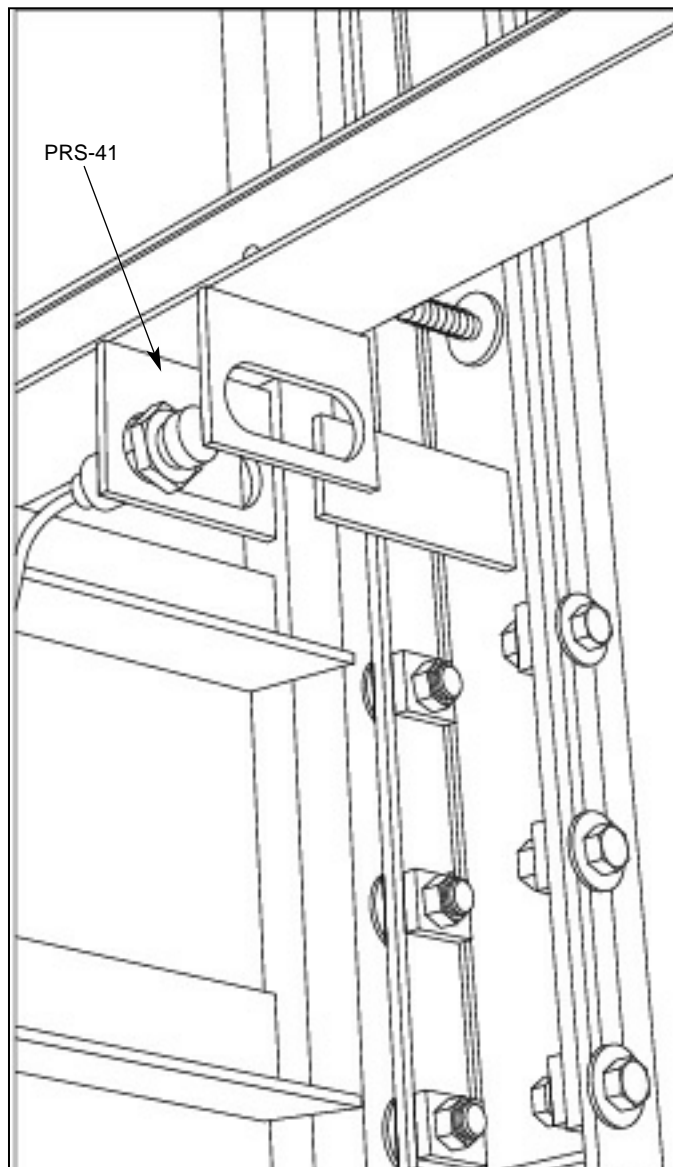

Figure 2.15 PRS-41.
2.2.1.1 PRS-41 indicates that pallet is completely inside Accumulator. Adjust so that, when bar is pushed all the way in, switch PRS-41 is actuated. See figure 2.15.